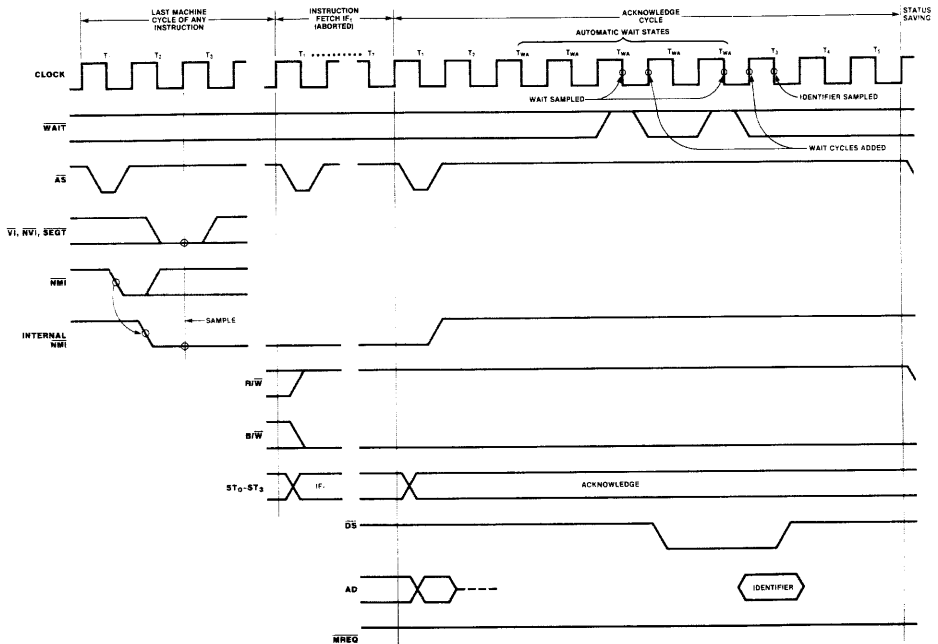

Figure 9-6. Interrupt and Segment Trap Request and Acknowledge Transaction.
These transactions are eight clock cycles long at a minimum (as shown in Figure 9.6), having five automatic WAIT cycles. The WAIT cycles are used to give the interrupt priority daisy chain (or other priority resolution device) time to settle before the identifier word is read. (Consult the *Z-Bus Summary* for more information on the operation of the priority daisy-chain.)
As shown in Figure 9.6, there are two places where WAIT is sampled and thus a WAIT cycle may be inserted. The first serves to delay the falling edge of \overline{DS} to allow the daisy chain a longer time to settle, and the second serves to delay the point at which data is read.
9.6.1 Interrupt/Trap Request. The Z8000 CPU supports three interrupts and one external trap (segment trap) as shown in Figure 9.6. The Interrupt Request line (\overline{INT}) of a device that is capable of generating an interrupt may be tied to any of the three Z8000 interrupt pins (\overline{NMI} , \overline{NVI} , \overline{VI}). Several devices can be connected to one pin, the devices arranged in a priority daisy chain (see the *Z-Bus Summary*). The segment trap pin (\overline{SEGT}) is activated by the memory management hardware. The CPU uses the same protocol for handling requests on any of these pins. Here is the sequence of events that is followed: